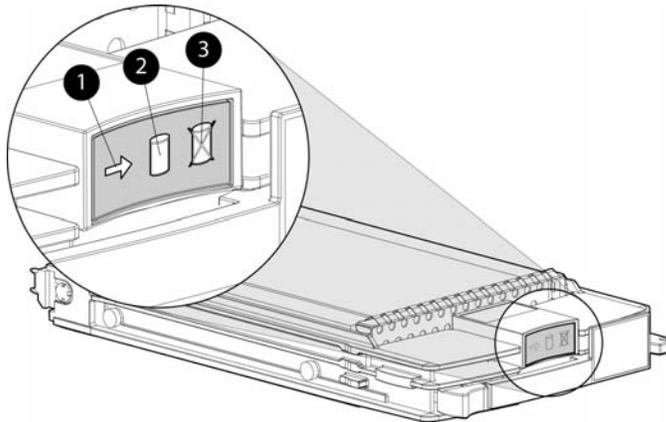

Figure 9 Disk drive status indicators
- Check the disk drive status indicators. See Figure 9.
- Activity indicator (1) should be on or flashing
- Online indicator (2) should be on or flashing
- Fault indicator (3) should be off